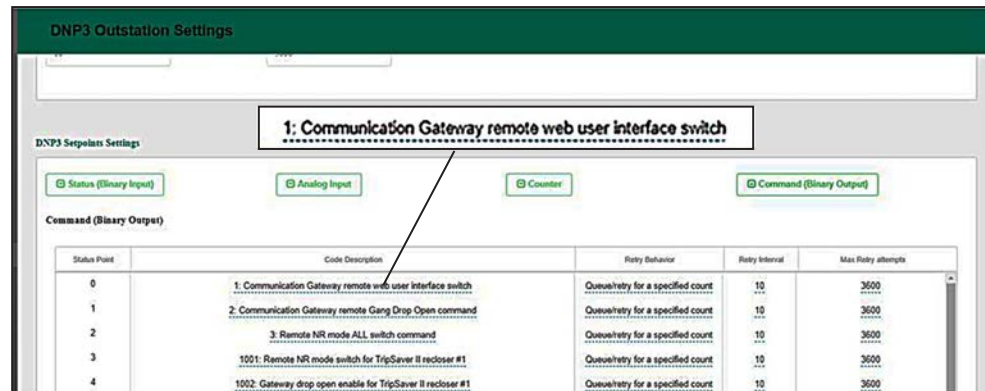

Figure 70. Configuring the Remote Web UI DNP3 command (binary output).
**STEP 3.** On the *DNP3 Outstation Settings* screen, **Command (Binary Output)** field, a Binary Output status point must be configured with code description “1: Communication Gateway remote web user interface switch.” See Figure 70.